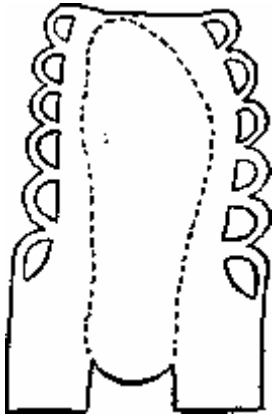

Fig. 1.
The next thing to do is to make it “blowable.” The two best ways of making a mouthpiece are (1) to bore a hole in the side, and (2) to cut the point off and to shape it into a mouthpiece (see Figure 1).
Another way of making a mouthpiece is to cut the point off the horn where its diameter is about $\frac{3}{4}$ in., and shape it like a trumpet mouthpiece (see Figure 1).
Before starting to cut the leather, it is advisable to make a pattern out of a strong piece of paper by placing the foot on it and marking round with a pencil. When you are satisfied with the pattern, get a good stout piece of cowhide about an eighth of an inch thick and cut it to the shape shown in Figure 1.